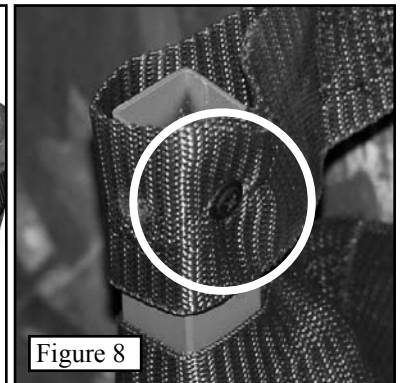

Figure 8
Step 8. Use two self tapping screws to secure the seat webbing to the Arm Support bar. Run the screws in through the webbing from the side as shown in **Figure 8**. A powered screw driver works best for this step.